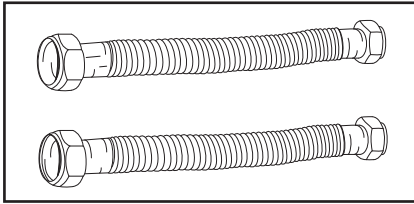

Figure 1 - Flexible connectors use compression fittings and do not require soldering.
- Threaded connectors (Figure 1) for the cold and hot water pipes
- For homes with copper pipes, you may purchase connector kits with compression fittings that don't require soldering (Figure 1). Compression fittings are easier to install than soldering copper pipes.